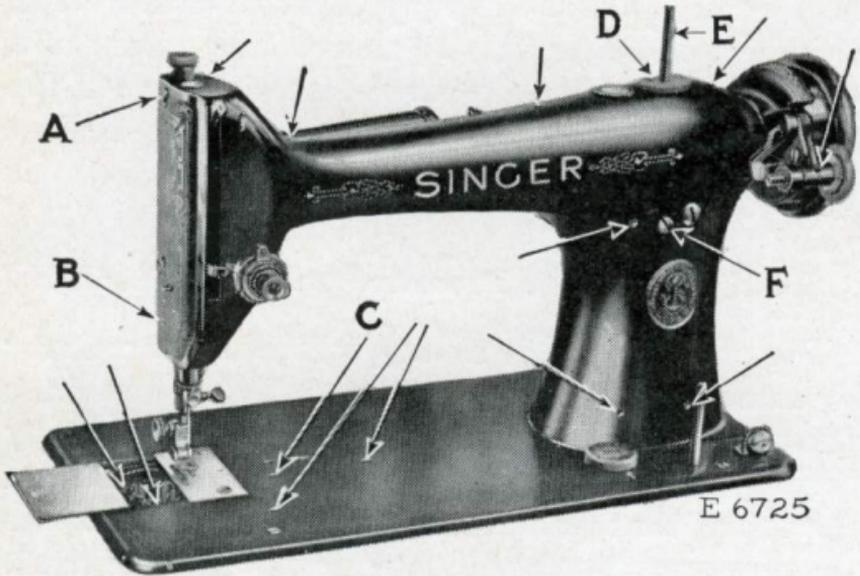

FIG. 27. FRONT VIEW, SHOWING OILING POINTS
machine requires oiling, and if used continuously, it should be oiled each day. With moderate use, an occasional oiling is sufficient. Oil should be applied at each of the places shown by arrows in Figs. 27, 28 and 29. One drop of oil at each point is sufficient with the exception of the oil hole (C, Fig. 27) into which hole about 12 drops of oil should be poured each time the machine is oiled. Oil holes are provided in the machine for bearings which cannot be directly reached.
To oil movable parts in the head of the machine, take out the screw (B, Fig. 27) near the lower end of the face plate and loosen the screw (A, Fig. 27)
The gears of the motor should occasionally be lubricated with grease from the tube of Singer Motor Lubricant which is furnished with the machine. Unscrew the spool pin (E, Fig. 27)—a slot being cut at the top of the spool pin to permit the use of a screwdriver. After removing the spool pin and felt washer (D, Fig. 27) insert the tip of the motor lubricant tube into the spool pin hole and force a small quantity of the lubricant through the hole to lubricate the gears, then replace the spool pin and felt washer. **Under no circumstances should oil be used at this hole, but only the lubricant.**
- (b) Remove the screw (F, Fig. 27, page 28) which holds the motor.
- (j) Replace the screw (F, Fig. 27, page 28). The final position of the motor has an important bearing on the free running of the machine, and it may be necessary to slightly shift the motor to the left or right before the final tightening of the screw (F, Fig. 27).